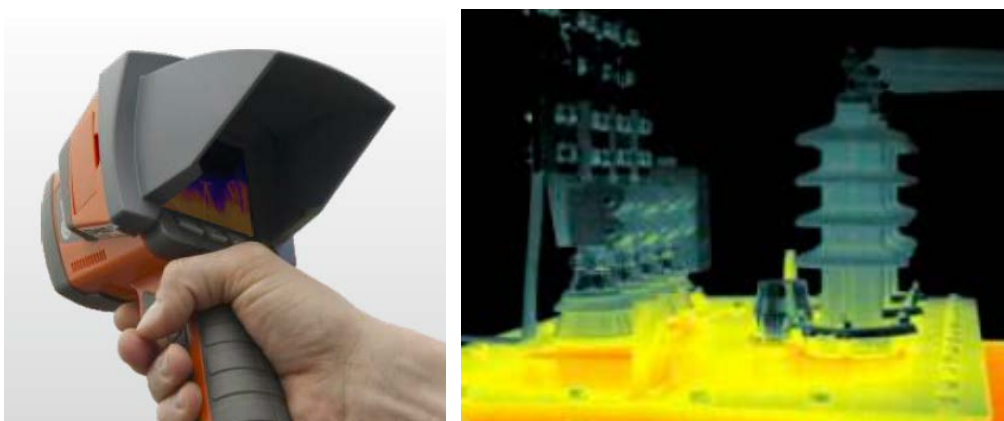

Figure 8 Thermal imager Device
**6. Thermal imager Device (see Figure 8)**